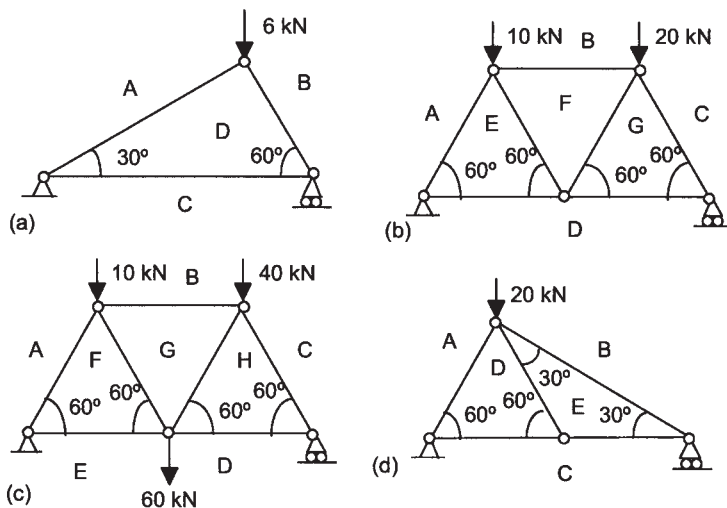

Figure 23.25 Problem 9
- 9 Using the method of joints, determine the magnitude and nature of the forces in each member of the plane pin-jointed frameworks shown in Figure 23.25.